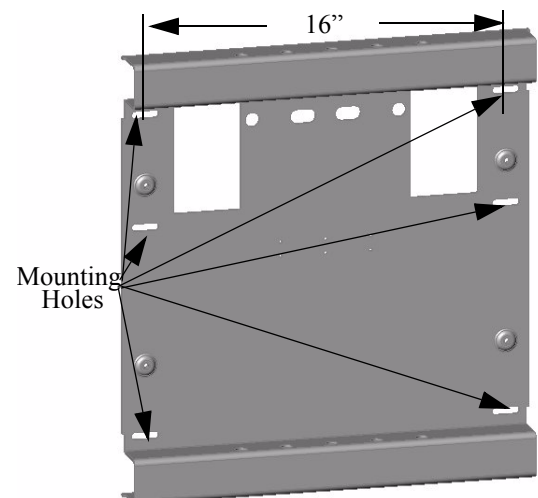

Figure 2. Mounting Holes
4. With the PDS correctly oriented and level, secure the PDS to the wall using two fasteners (not included) in the top mounting holes (see Figure 2). Fasteners must be driven into the supporting wall studs or other supporting framework.